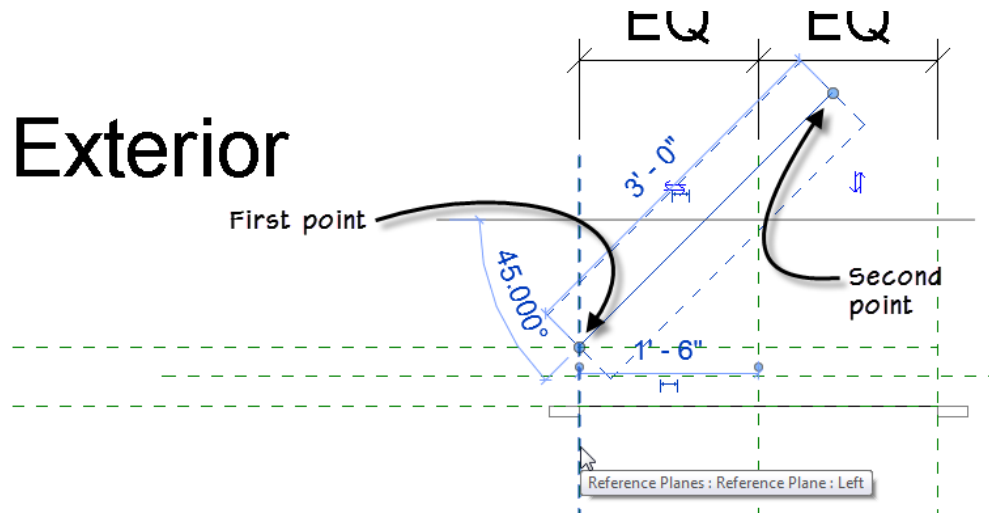

Figure 17—Draw a Reference Line from the hinge point at 45°
1. Draw a 45° Reference Line starting at the intersection of Left and Exterior Reference Planes. Make it 3'-0" long (see Figure 17).